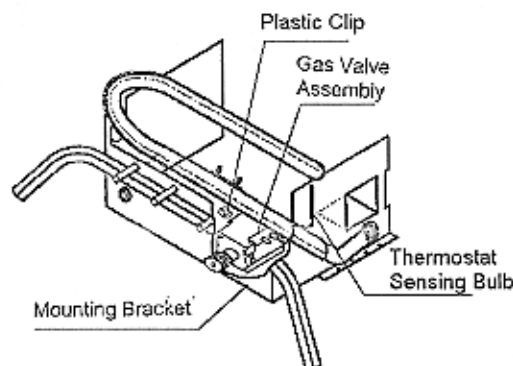

Figure 31 - Removing Thermostat Sensing Bulb
2. Remove the thermostat sensing bulb out of the plastic clip (see Figure 31).